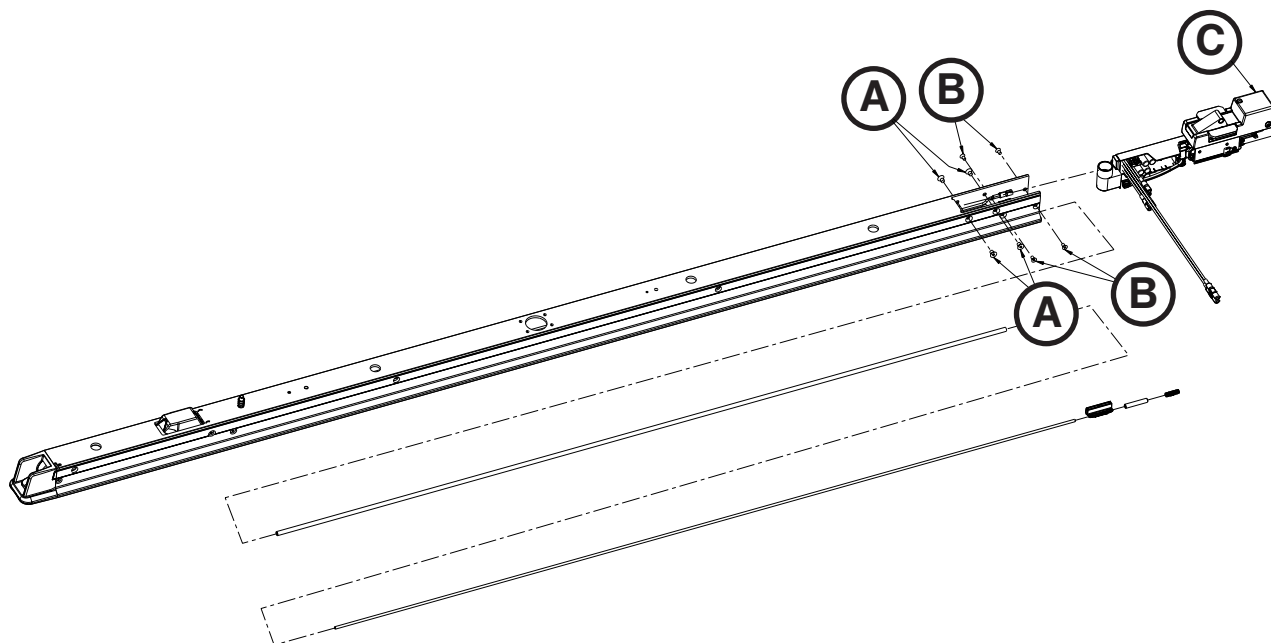

Figure 99
5. Using a 5/32" hex wrench, remove the four screws (A) (Figure 99).
6. Using two 1/8" hex wrenches, remove the four flat head cap screws (B) that secure the anchor pawl assembly to the anchor (Figure 99). Save all parts for reinstallation.
7. Carefully remove the anchor pawl assembly (C) from the anchor by pulling toward the head end of the anchor (Figure 99).